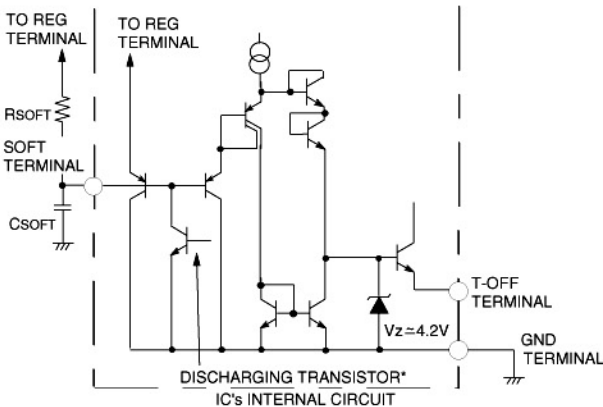

Fig.6 Circuit diagram of SOFT terminal section and T-OFF terminal section
- ① It is ideal for primary control as IC driving current is supplied from the third winding of the main transformer at the start-up because constant ON duration is obtained from start-up.
- ② It is possible to get a wide dynamic range for ON/OFF ratio by pulse-by-pulse current limit circuit.
- ③ The response characteristics at power-on is not affected by input voltage as the pulse-by-pulse limit current value is not affected by the input voltage.
Fig.6 shows the circuit diagram of the soft start.If SOFT terminal voltage is low,T-OFF terminal voltage becomes low and VT-OFF in equations (3) and (4) become low.